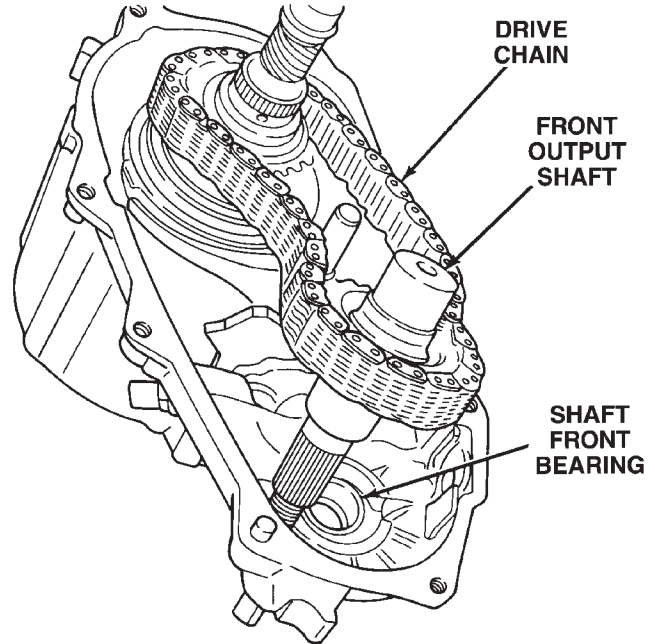

Fig. 20 Disengaging Front Output Shaft From Front Bearing
(2) Pull front output shaft upward and out of front bearing (Fig. 20).